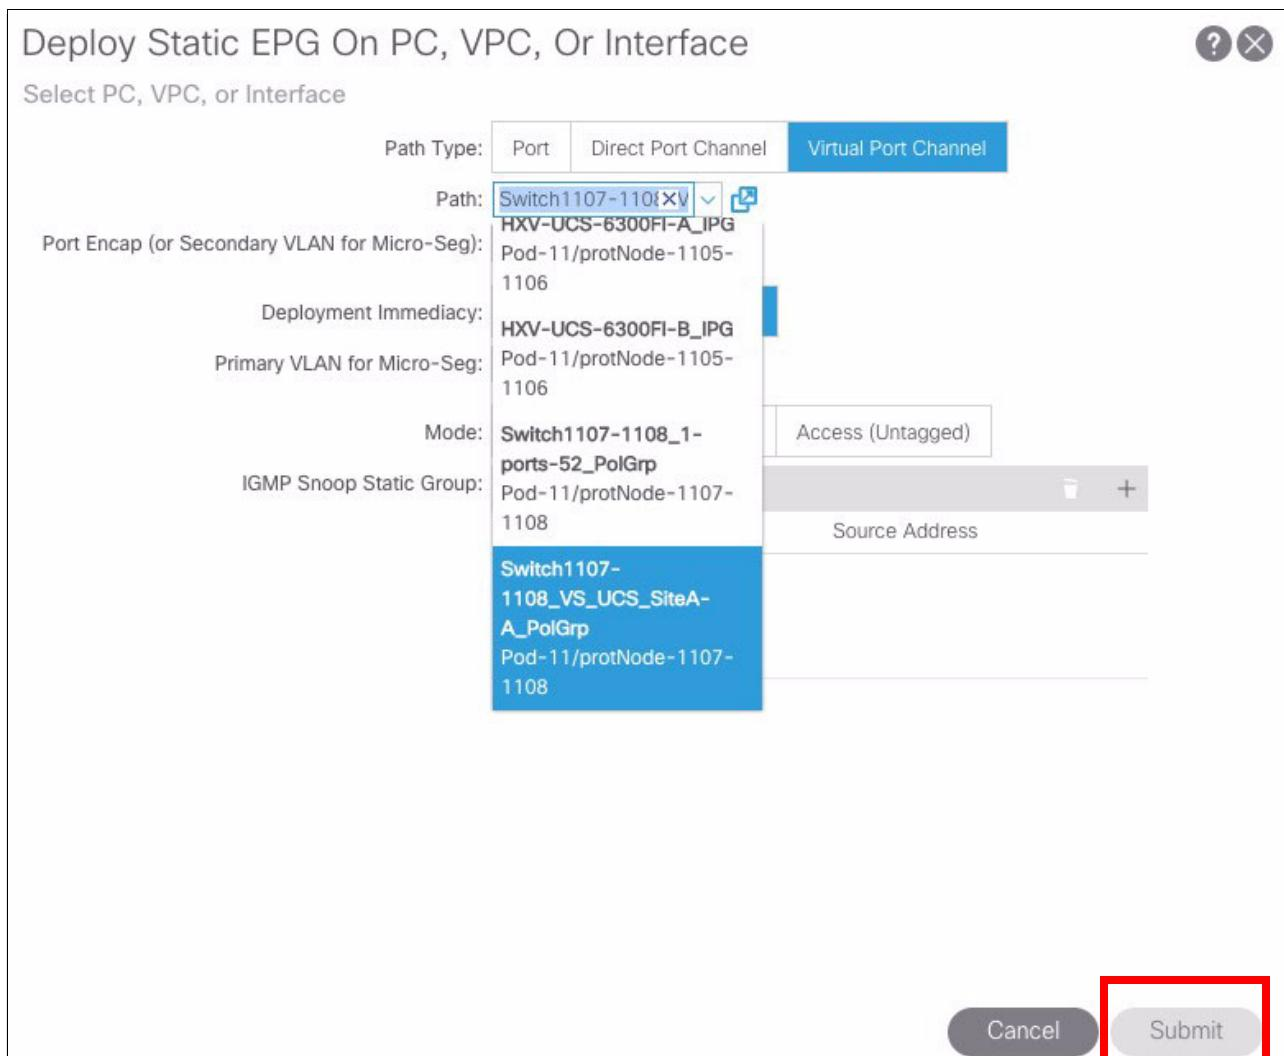

Figure 4-29 Deploy Static EPG on PC, VPC, or Interface
5. Click **Submit**, as shown in Figure 4-29.